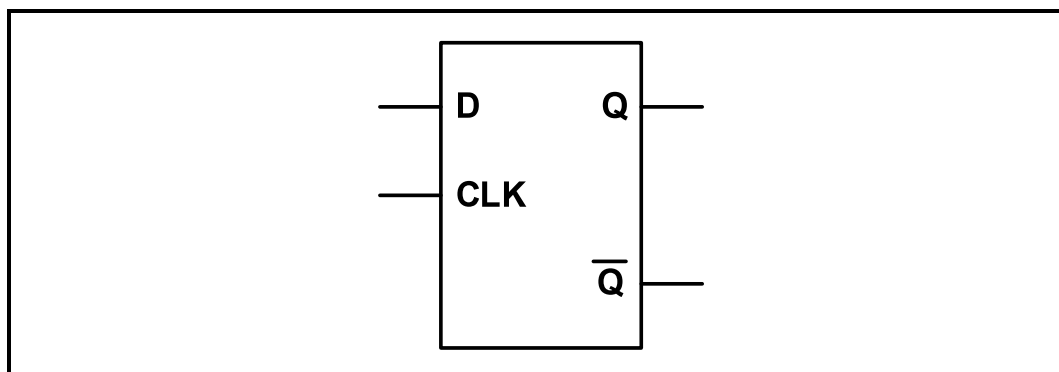

FIGURE 5.4: D-TYPE FLIP-FLOP
- 5.4 Refer to FIGURE 5.4 below of a clocked D-type flip-flop and answer the questions that follow.